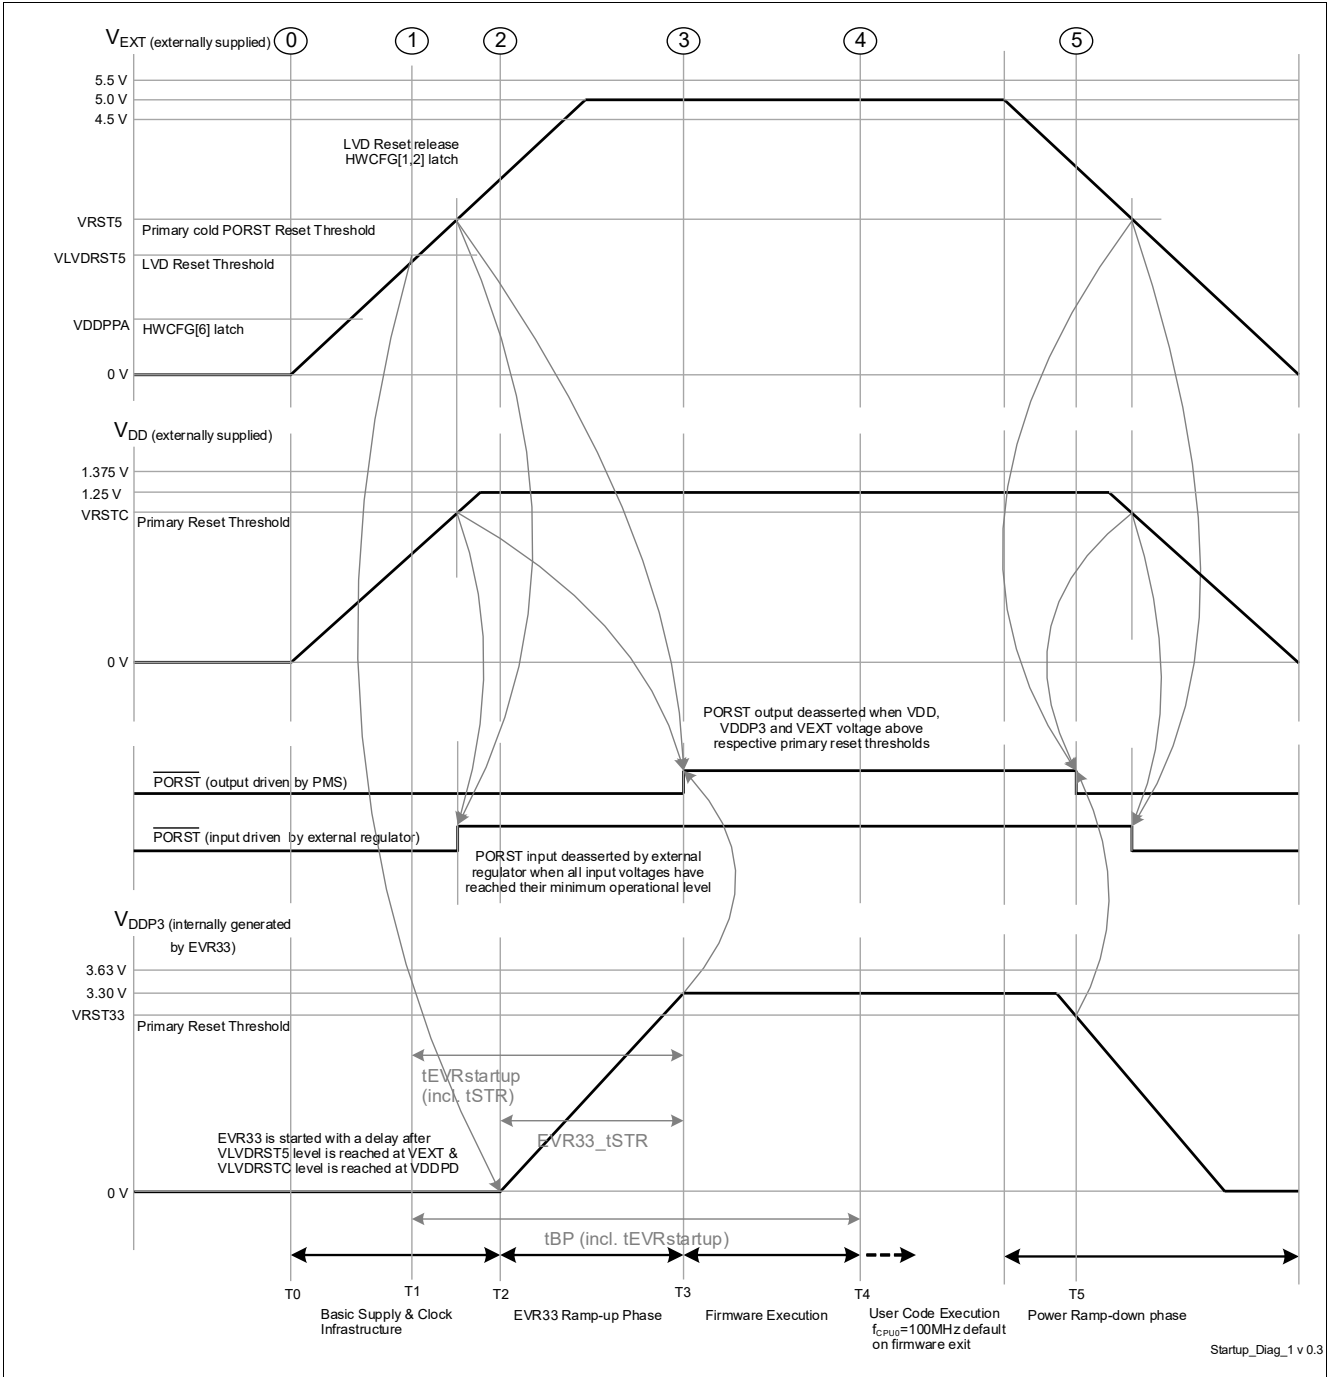

Figure 3-5 External Supply mode (d) - VEXT and VDD externally supplied
- The power sequence as shown in Figure 3-5 is enumerated below